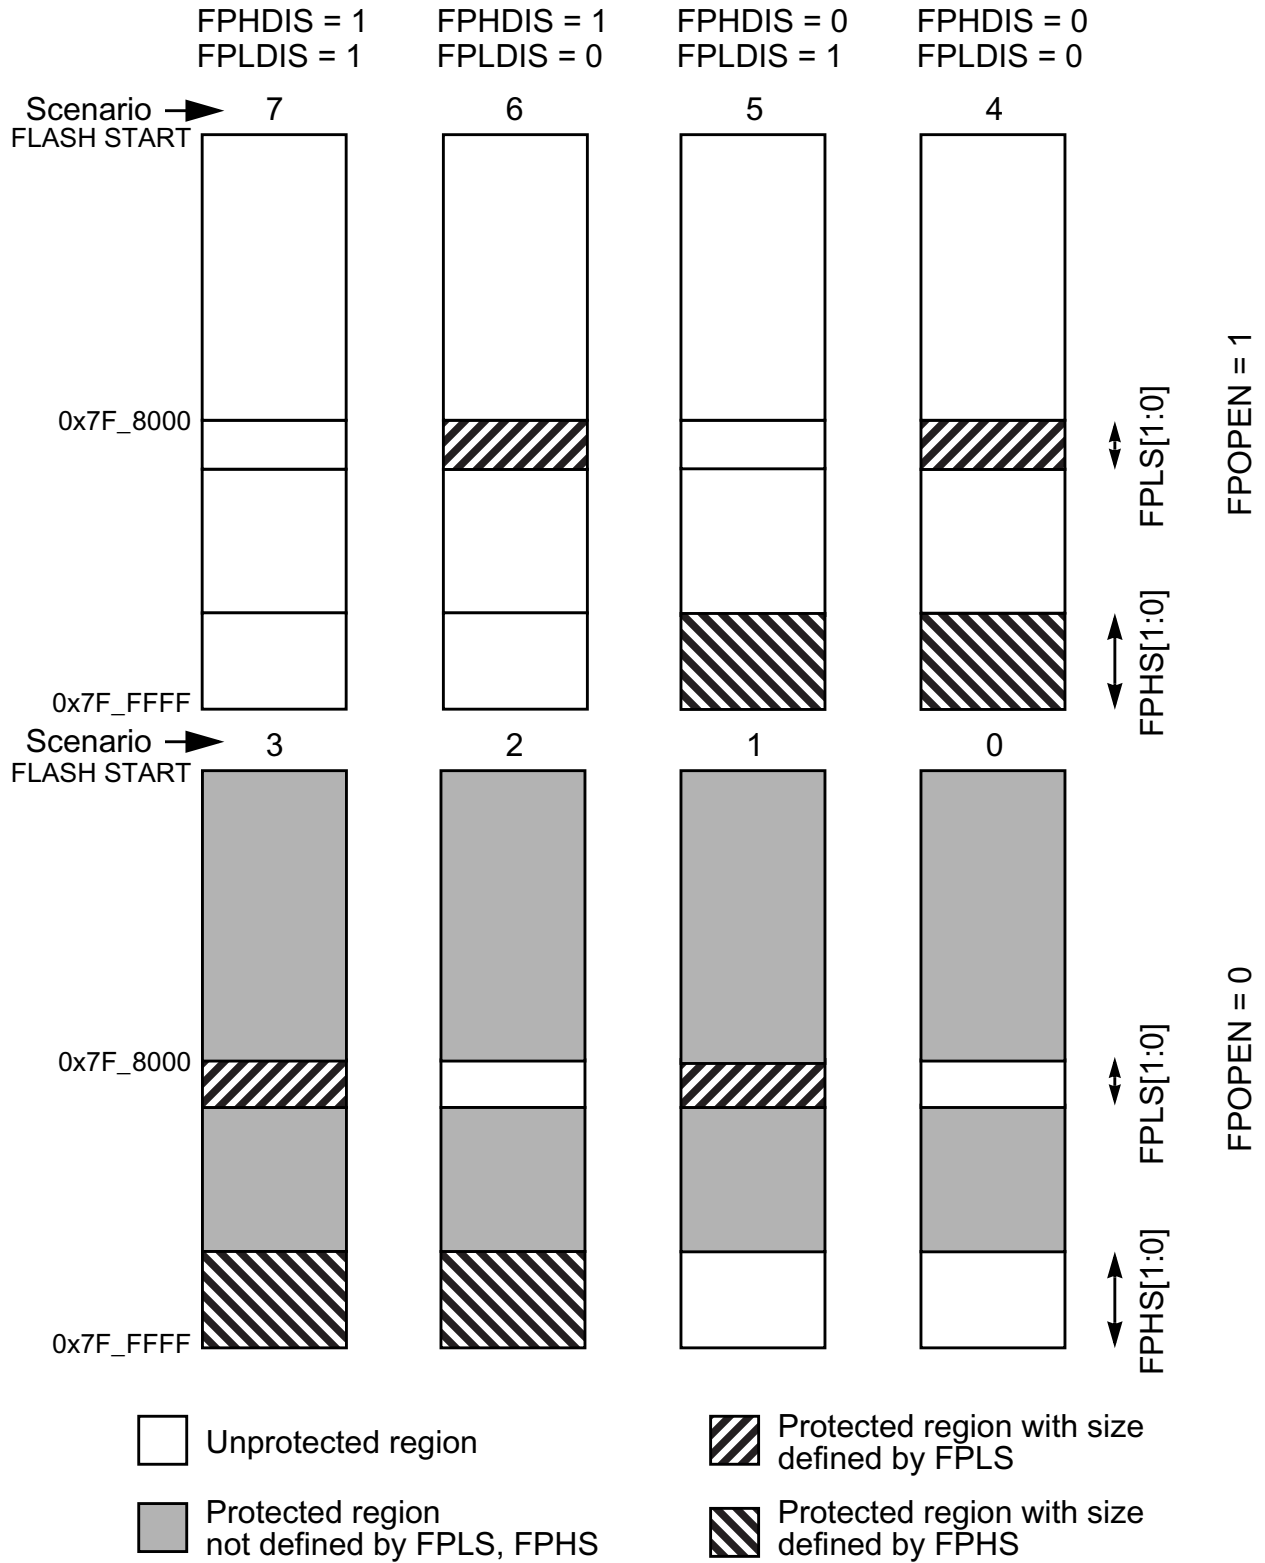

Figure 26-14. P-Flash Protection Scenarios
All possible P-Flash protection scenarios are shown in Figure 26-14. Although the protection scheme is loaded from the Flash memory at global address 0x7F_FF0C during the reset sequence, it can be changed by the user. The P-Flash protection scheme can be used by applications requiring reprogramming in single chip mode while providing as much protection as possible if reprogramming is not required.
1. Allowed transitions marked with X, see Figure 26-14 for a definition of the scenarios.